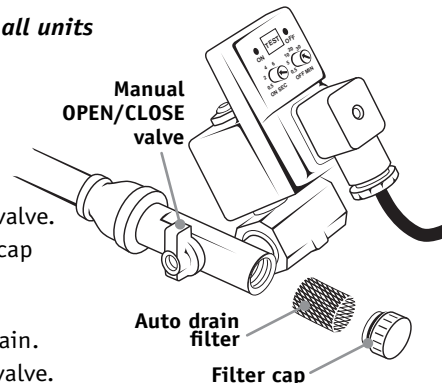

Figure 13: Clean filter in automatic drain
- Clean filter daily. Refer to figure 13.